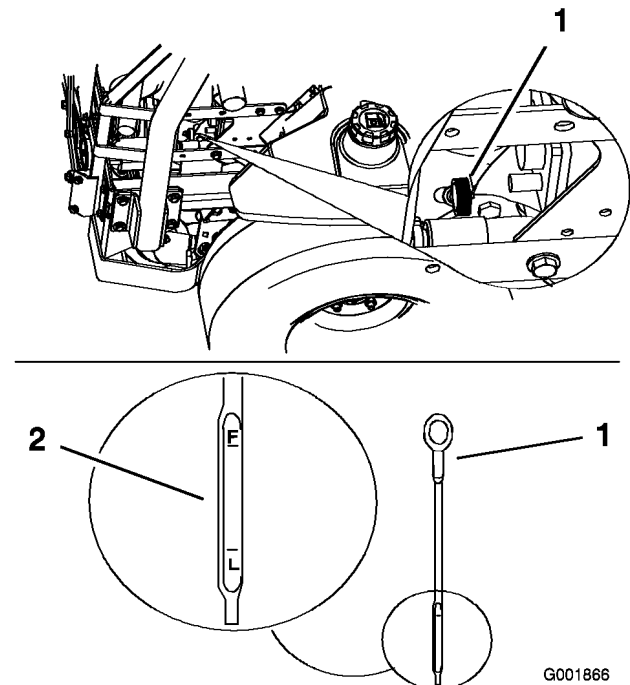

Figure 37
3. Clean around the oil dipstick (Figure 37) so dirt cannot fall into the filler hole and damage the engine.
4. Pull the oil dipstick out and wipe the metal end clean (Figure 37).
5. Slide the oil dipstick fully into the tube. Pull the dipstick out and look at the metal end (Figure 37). If the oil level is low, slowly pour only enough oil into the fill hole to raise the level to the full mark.